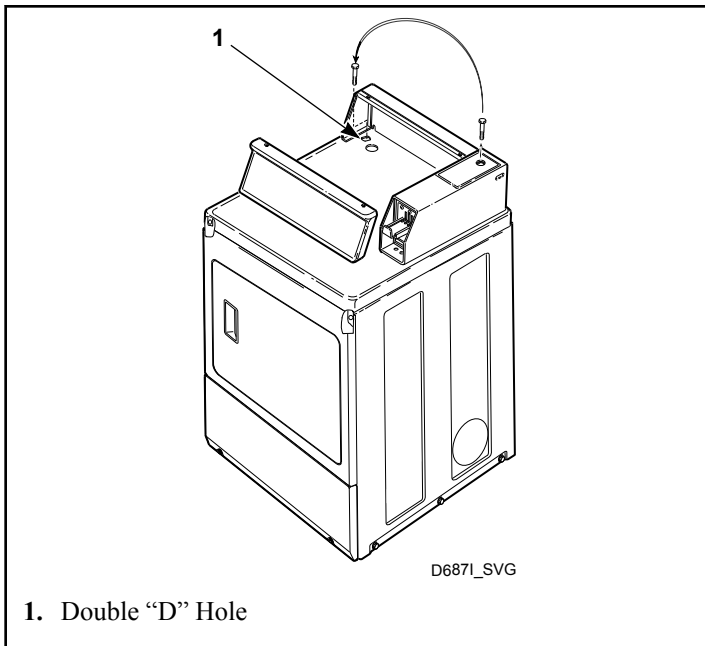

Figure 39
1. Remove the Phillips head screw from service door (refer to *Figure 39*).